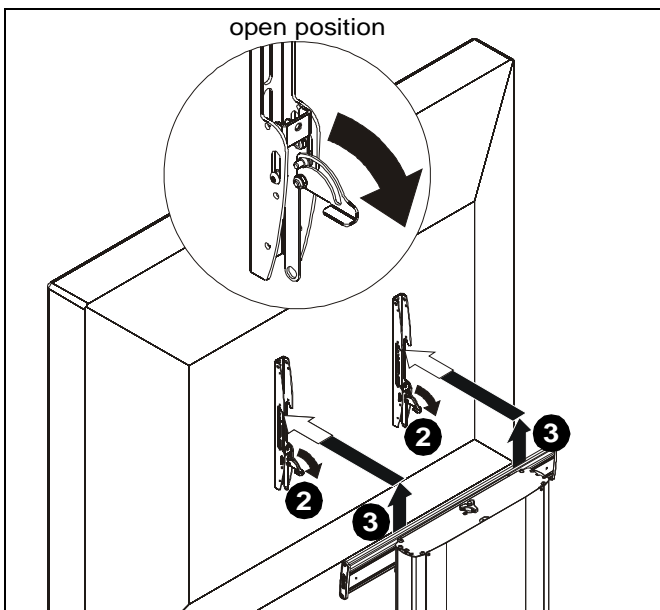

Figure 22
2. Position latches on interface uprights so that they are in the "open" position. (See Figure 22)
3. Carefully lift display from cart. (See Figure 22)